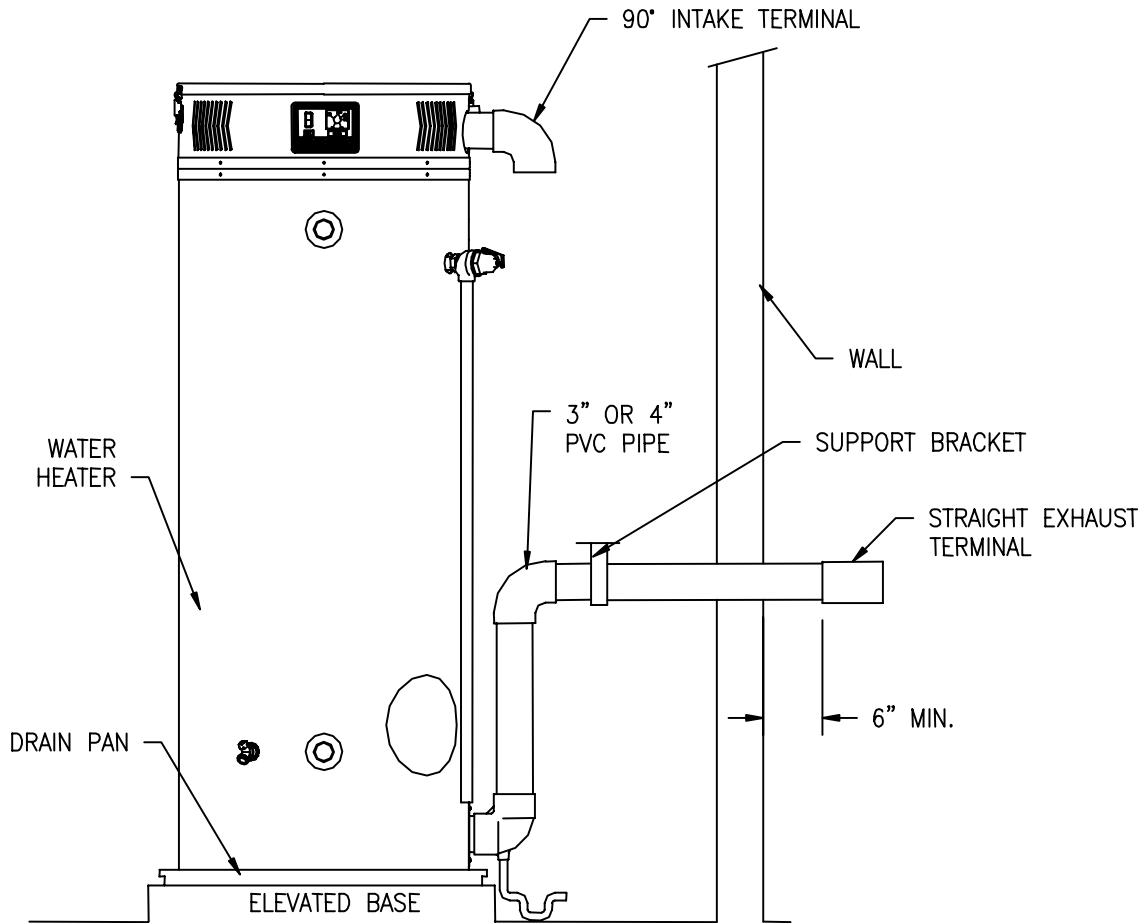

Figure 16. Typical Horizontal Power Vent System
2. Use the proper PVC cement or sealant to secure the exhaust vent terminal provided with the water heater to the plastic pipes. The distance between the back edge of the exhaust vent terminal and the exterior wall (see Figure 16) must be 6 inches (13.0 cm). Use the proper cement and assembly procedures to secure the vent connector joints between the terminal and the blower outlet. Provide support brackets for every 3 feet (1.0 m) of horizontal vent.